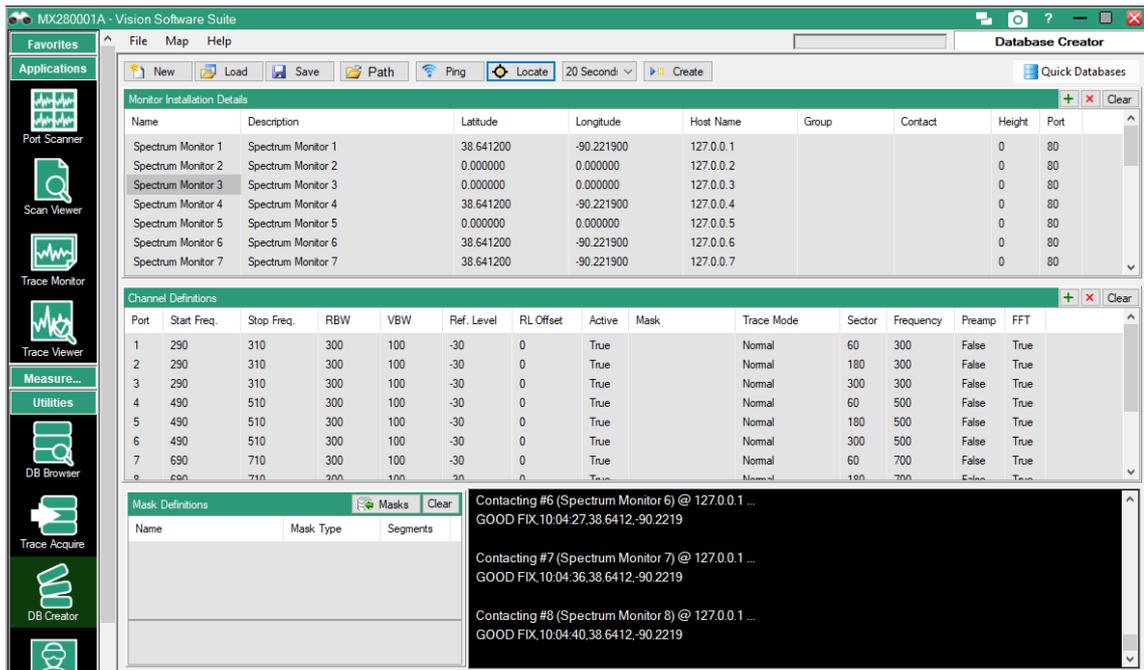

Figure 3-11. Database Creator Screen – Imported Monitor List – Example 1
- Click **Import** and the input tables in Database Creator will automatically compile. This import file did not contain GPS coordinates for the monitors, and click **Locate** (Figure 3-11) to get that from the monitors. If Vision Monitor Simulator is running, you can do that now to complete the Monitor Definition table.